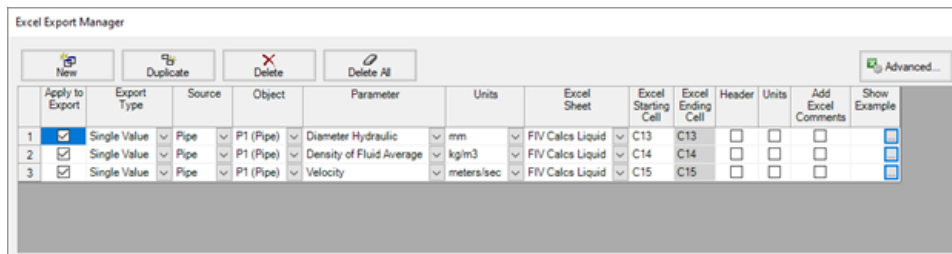
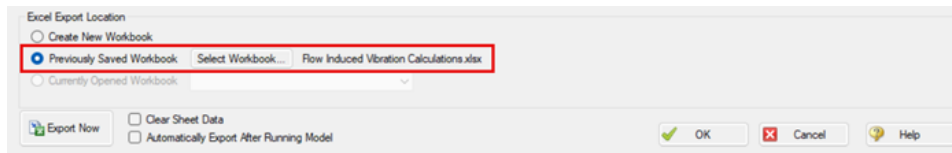

Figure 4: Excel Export Manager window with incompressible fluids
Figure 5: Bottom of the Excel Export Manager window
- The Flow Induced Vibration Calculation Excel spreadsheet should be preselected. If not, click the **Select Workbook** button, navigate to the **Flow Induced Vibration Calculation.xlsx** file then click **Open**. The top of the Excel Export Manager window should look like Figure 4 and the bottom should look like Figure 5.